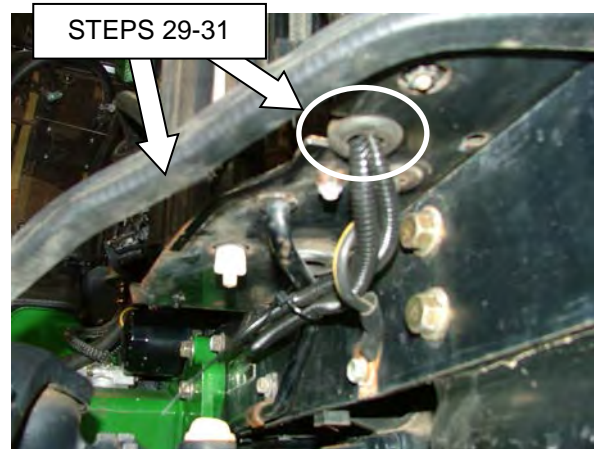

FIGURE 17
29. Remove trim seal from RH side of battery deck plate and drill a 1" diameter hole, 1.50" from the edge (**Figures 17 & 18**).
30. Slot the hole outward as shown in **Figures 17 & 18**.
31. Cut rubber grommet (S), place over wire harness and install into 1" slot (**Figures 17 & 18**).